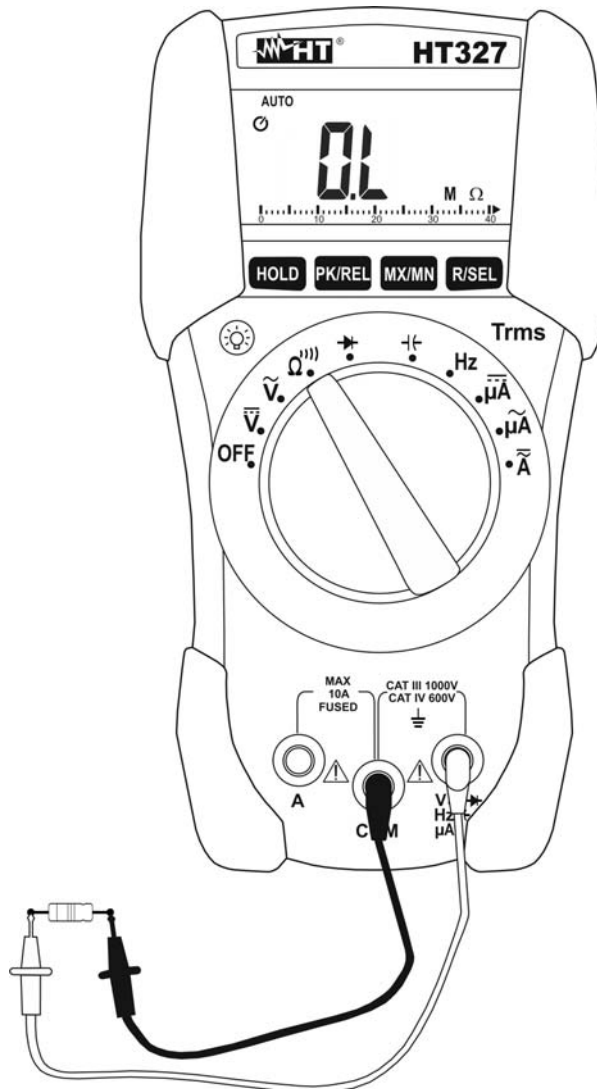

Fig. 6: Using the instrument for Resistance measurement and Continuity test
3. Connect the test leads to the circuit under test (see Fig. 6). The resistance value is displayed